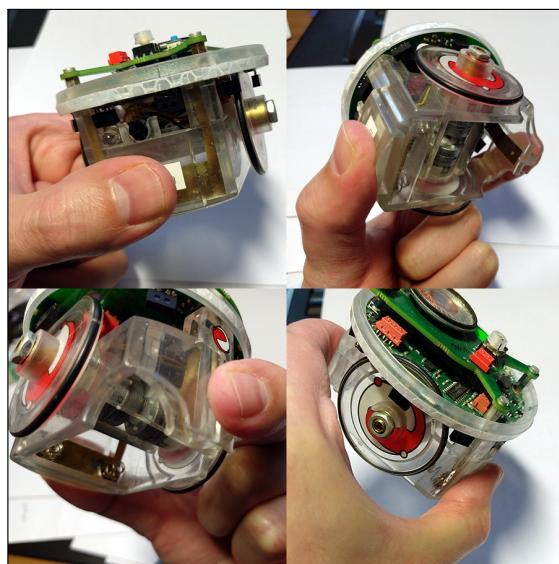

Figure F.1: Series of photos showing how to grasp the e-puck securely.
- Instead, grasp them directly from the front and back of their transparent body with forefinger and thumb: this allows a good grip without any risk of damaging the different sensors (see Figure F.1).